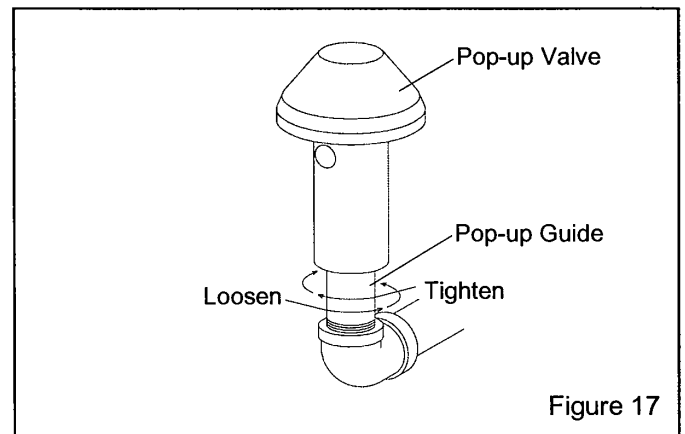

Figure 17
7.8 Pop-up Valve Replacement, Figure 17